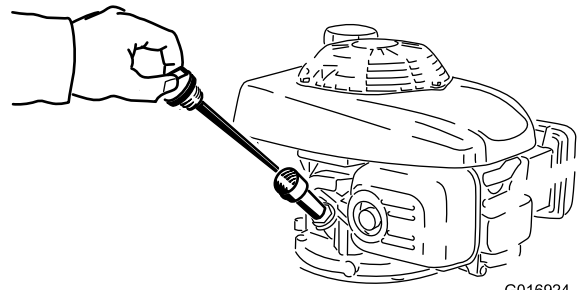

Figure 27
5. Remove the dipstick (Figure 27).